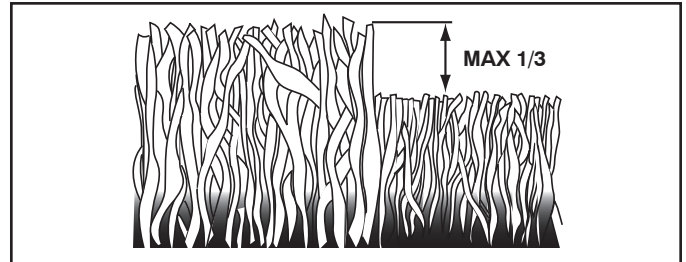

Fig. 25
- For best results, adjust the mower cutting height so that the mower cuts off only the top one-third of the grass blades (See Fig. 25). For extremely heavy mulching, reduce your width of cut on each pass and mow slowly.